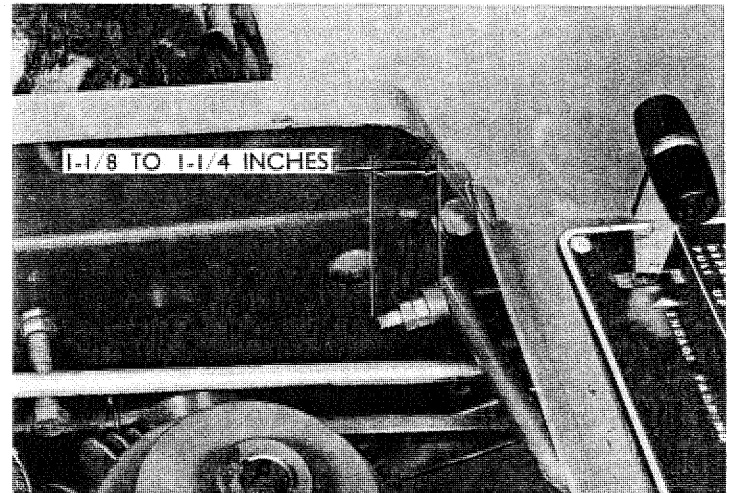

FIGURE 14
- b. Release the parking brake lever to "Running Position". Loosen the jam nuts and turn the inner nut to obtain the dimension in Figure 14. Lock the jam nuts together to hold the setting.